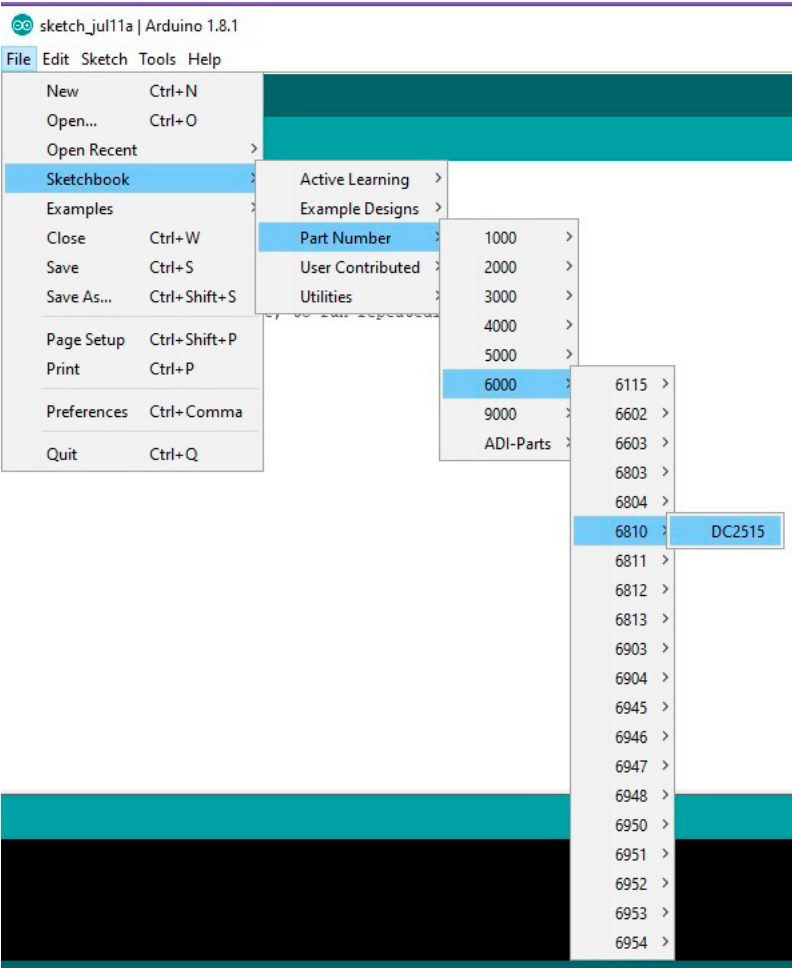

Figure 8. Selecting the LTC6810 Sketch
6. Open one of the programs or **sketches** associated with the DC2515B. In this example LTC6810 sketch will be opened. Under the **File** menu, select **Sketchbook** → **Part Number** → **6000** → **6810** → **DC2515** (see Figure 8).